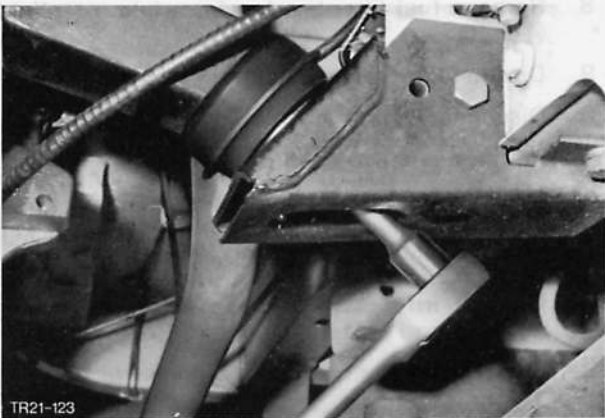

Fig. 105. Fit engine mounting rubber insulators
18. Lower engine and fit right-hand and left-hand engine mounting rubber insulators, Fig. 105.